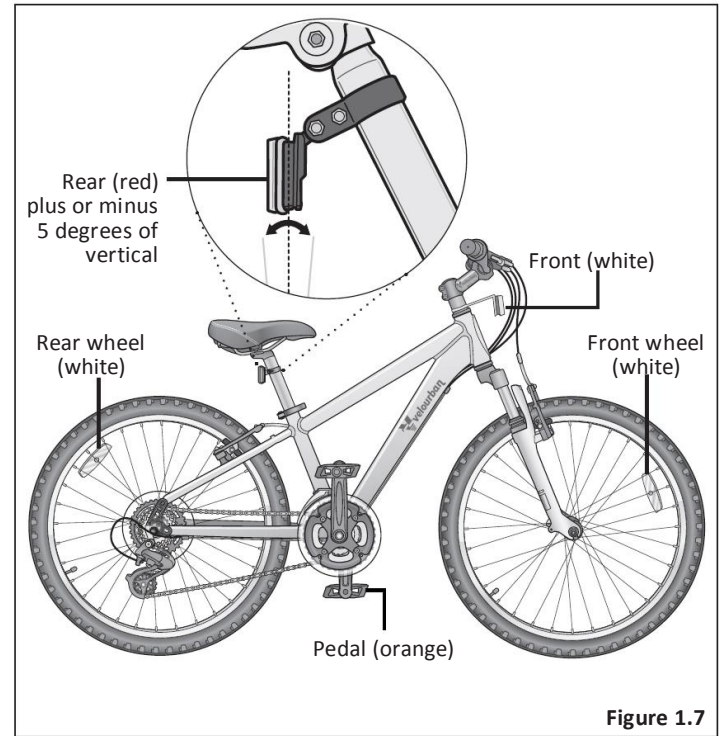

Figure 1.7
**Important!** Federal regulations require every bicycle over 16 inches to be equipped with front, rear, wheel, and pedal reflectors. Many states require specific safety devices. It is your responsibility to familiarize yourself with the laws of the state where you ride and to comply with all applicable laws, including properly equipping yourself and your bike as the law requires. Bicycles under 16 inches are considered “sidewalk bicycles” and may not be fitted with reflectors. These bicycles should **not** be ridden on streets, at night or unsupervised by an adult. Check and confirm the front and rear reflectors are in the correct position: **Figure 1.7**